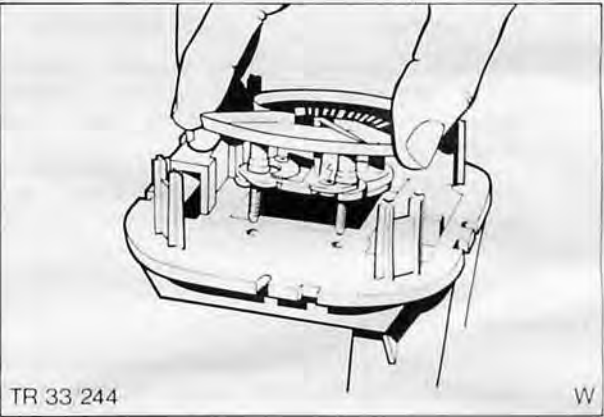

Fig. 67 Removing gauge from housing. Take care not to mark gauge face
4. Remove two nuts and washers from gauge retaining studs, detach gauge, Fig. 67.